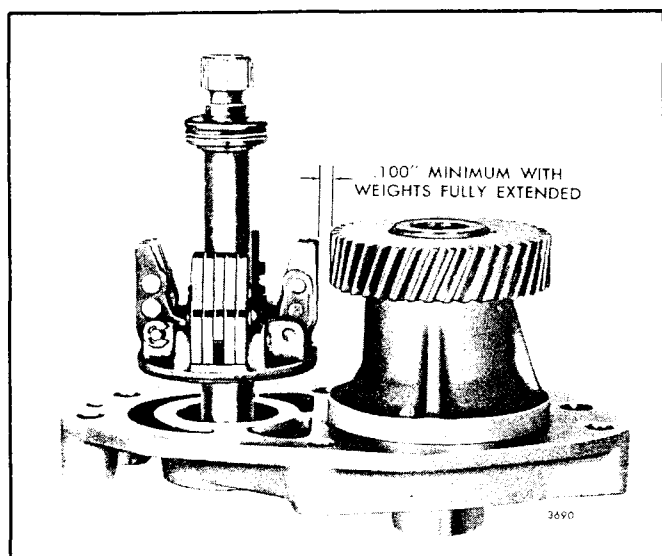

Fig. 18 - Minimum Clearance Between Blower Drive Gear and Governor Weights
7. Check the clearance between the fully extended governor weights and the blower drive gear. This clearance must not be less than .100" (Fig. 18).